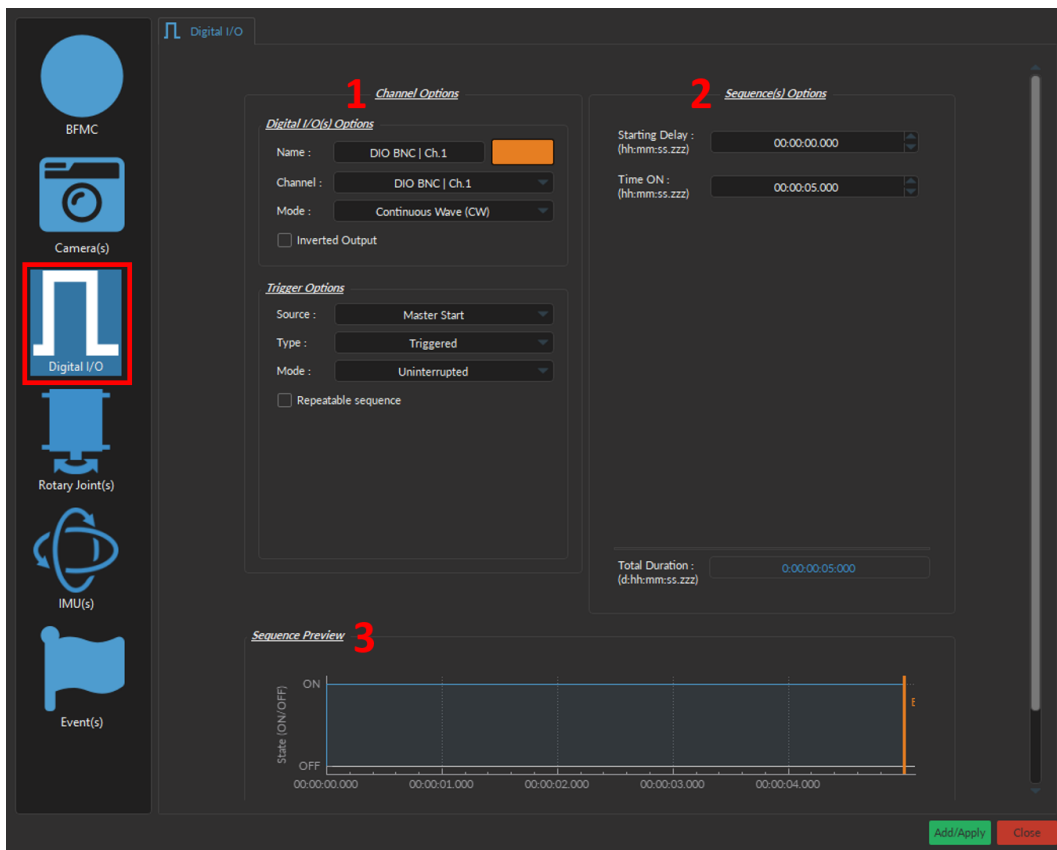

Figure 10.23: Channel(s) configuration window, Digital I/O
The *Channel(s) Configuration* window for the **Digital I/O** Channel is divided into three sections (Fig. 10.23): (1) the **Channel Options** (Section 10.4.2.1), (2) the **Sequence(s) Options** & (3) **Sequence Preview** (both treated in Section 10.4.2.2).